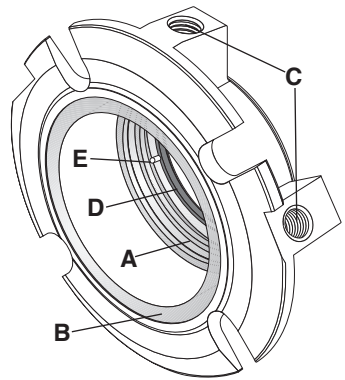

Figure 2
3.2 Gland Assembly (11) (Figure 2)